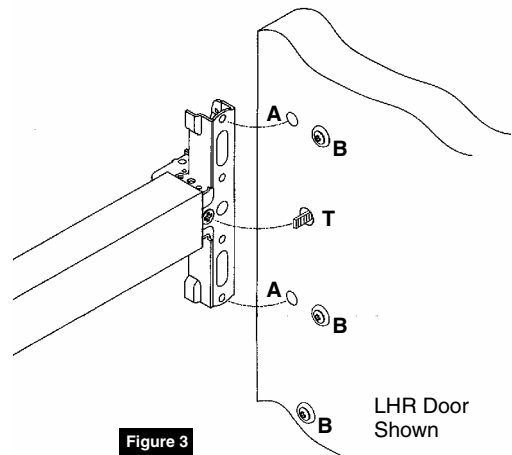

Figure 3
6. Mount trim to door through holes “B”. Fasten, finger tight only, with three (3) screws and washers seating on door, as shown. (Figure 3) Bottom screw and washer engages lower post on pull.
8. Seat device so that trim spindle engages vertical cam slot, as shown. (Figure 3) Continue as shown in device instructions.